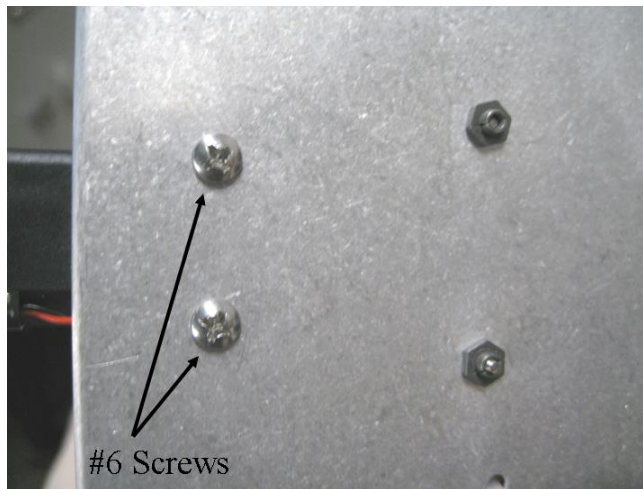

FIGURE J-8. Self-tapping screws attaching pump to metal box
8. Turn assembly over and remove the two self-tapping #6 screws that attach the pump to the metal box, as shown in FIGURE J-8. If these screws become lost or damaged, replace them with pn 13535.
2. Reattach the pump to metal box with two self-tapping screws on the back of the pump module electronics plate (FIGURE J-8).